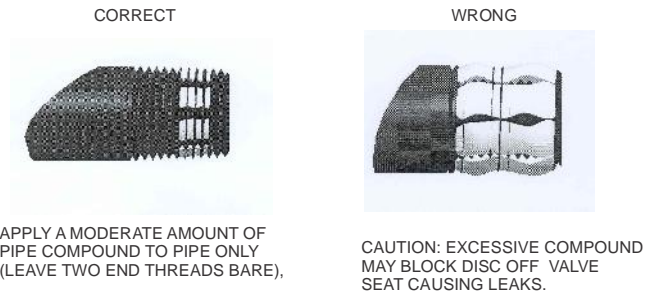

Figure 2: Use a Moderate Amount of Pipe Compound
9. For any threaded connections, threads of pipe and nipples must be smooth and free of tears and burrs. Steam clean all piping inside diameter to remove foreign substances such as cutting oil or thread chips before installing into the valve. Apply a moderate amount of good quality pipe compound (do not use Teflon tape) to pipe only, leaving two end threads bare (see Figure 2). On LP installation, use compound resistant to LP gas.